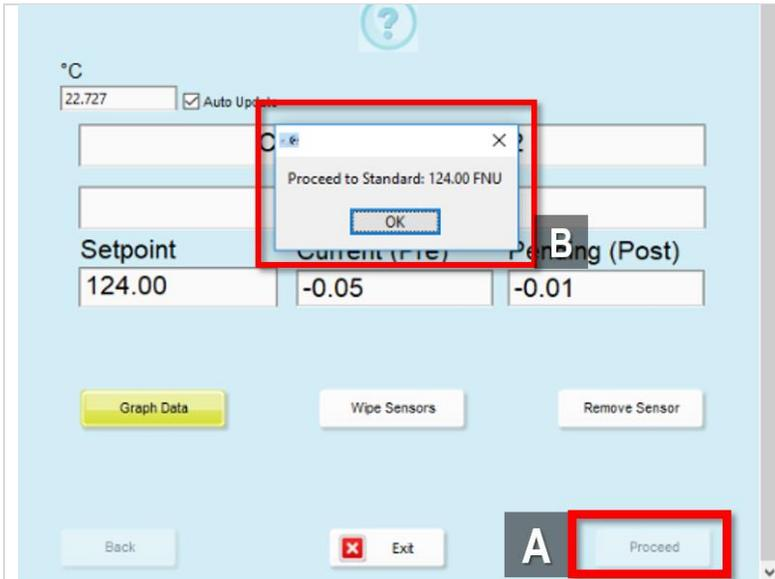

Figure 104. Click "Proceed" to Proceed to the next Turbidity Standard
**STEP 5** | Click on "Proceed" (A in Figure 104) in the lower right corner of the **Device Calibrations** window to move to the next calibration point.
A pop-window will appear stating "Proceed to Standard: 124.00 FNU" (B in Figure 104). WAIT to click "OK" until after the next step.